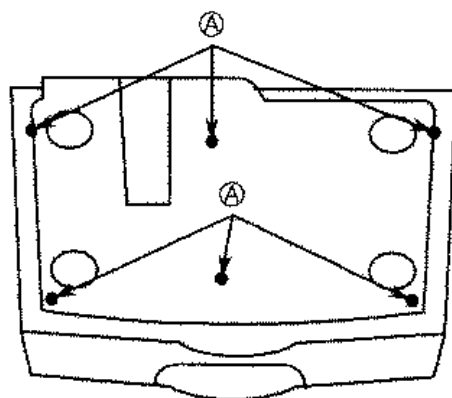

Fig.1 Bottom view
1. Take off 6 screws ① on the bottom. (See fig.1)